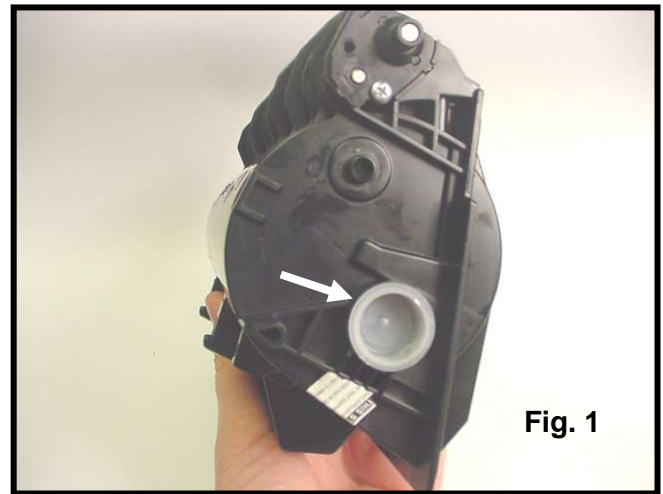

Fig. 1
1. Remove the fill plug and dump remaining toner from the toner hopper (Fig. 1).